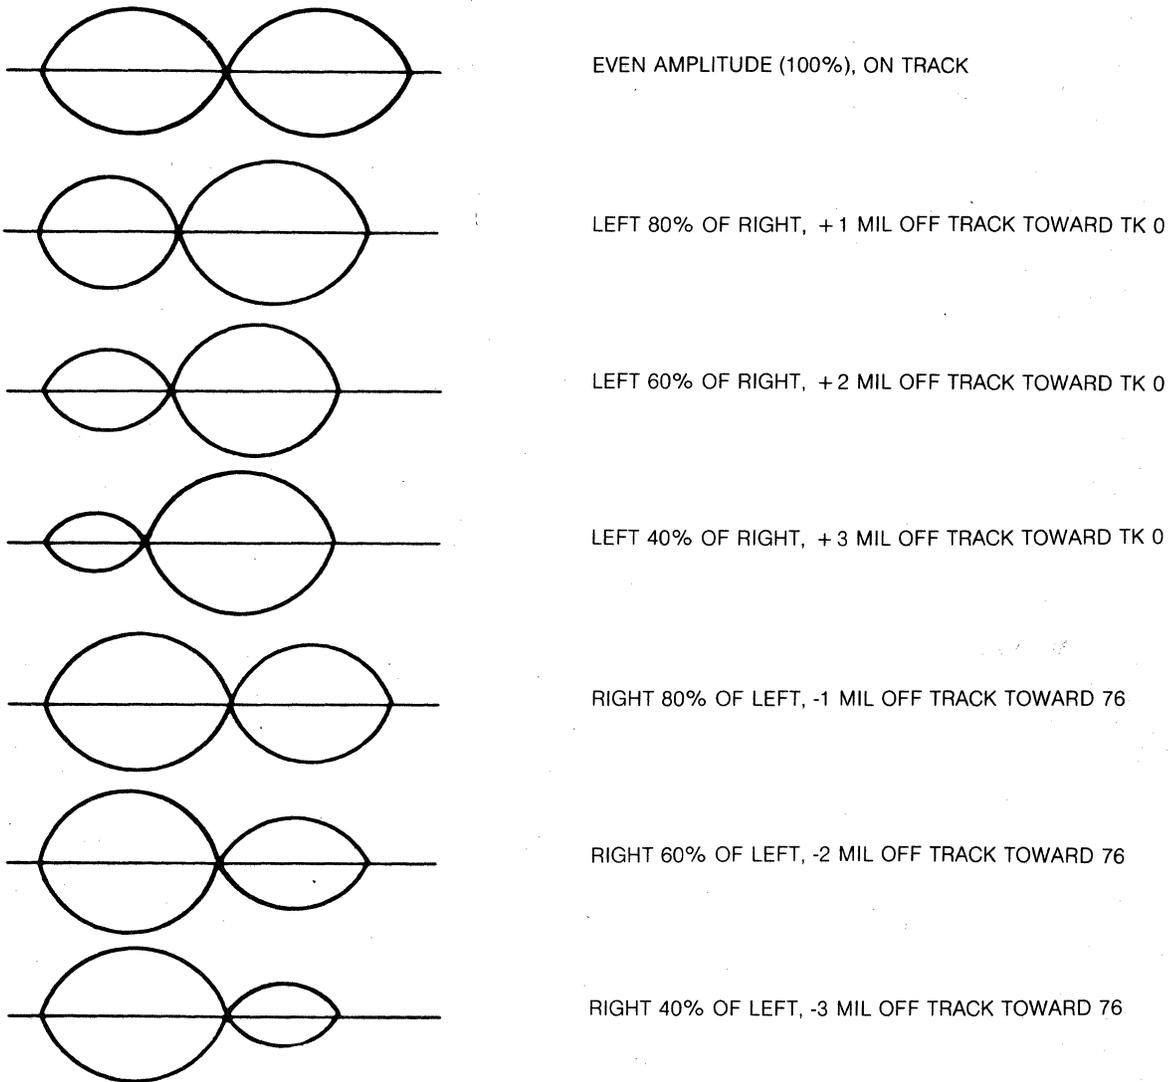

FIGURE 45. HEAD RADIAL ALIGNMENT
- e. The amplitude of the two lobes must be within 70% of each other. If the lobes do not fall within this specification continue on with the procedure (Refer to Figure 45).